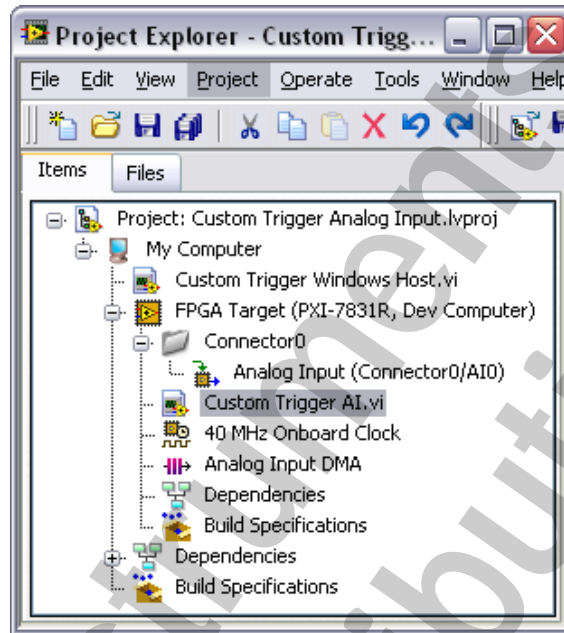

Figure 9-3. Custom Trigger Analog Input Project
- Verify that your Project Explorer window now resembles Figure 9-3.